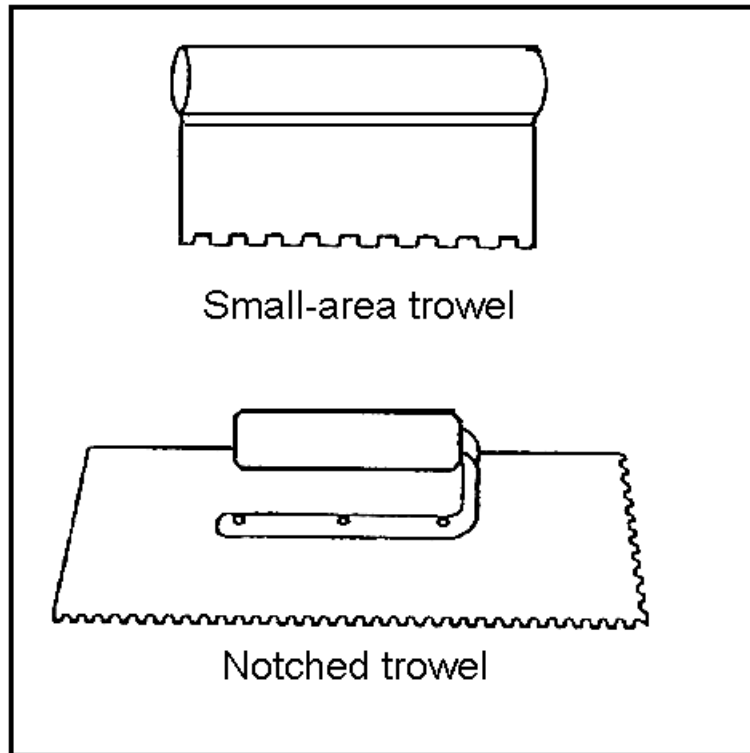

Figure 051-236-1176-1
- (1) Ensure that the floor surface is clean before spreading the adhesive.
- (2) Spread the adhesive up to the chalk lines, but do not cover them.
- (3) Use a notched trowel with the notch depth recommended by the manufacturer of the adhesive (Figure 051-236-1176-1).